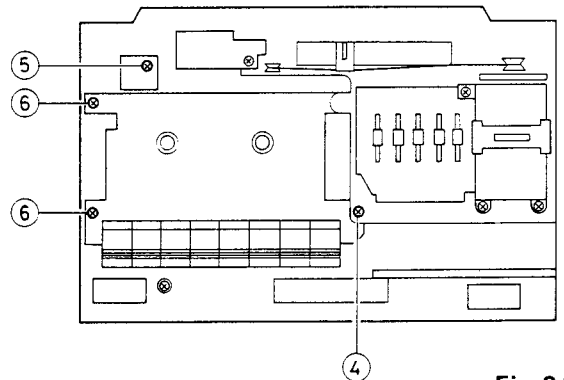

Fig. 3-2
■ Mechanism assembly (See Fig. 3-2.)
- 1) Remove two screws ⑥ securing the mechanism assembly by the left side.